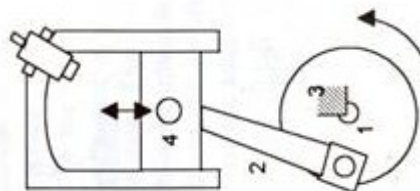

Fig. 1.2
1. **Sliding Pair :** It consists of two links connected in such a manner that one is constrained to have a sliding motion relative to other. E.g. piston & cylinder as shown in fig. 1.2, rectangular bar in rectangular hole as shown in fig. 1.6(a).